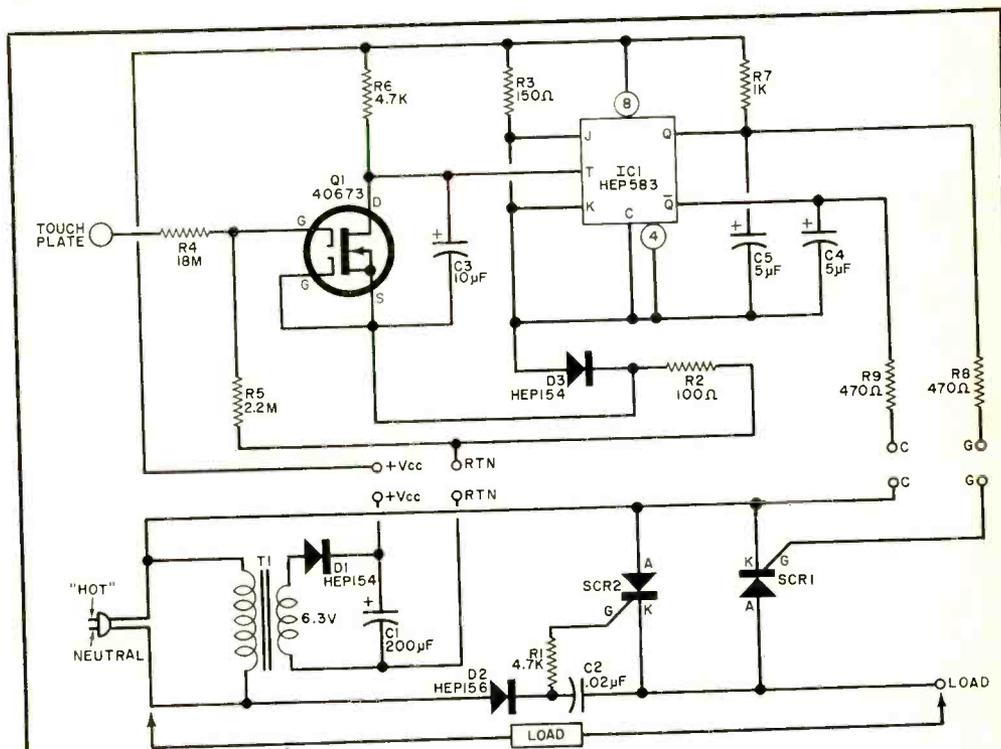

Fig. 1. In switch circuit, the flip-flop in IC1 is triggered by MOSFET Q1 which has high input impedance. Two SCR's supply load power on alternate half cycles.
**Circuit Operation.** Transistor *Q1* (see Fig. 1) is an insulated-gate MOSFET having an extremely high input impedance. Voltage gain is not required in this circuit, but current gain and impedance transformation are. When the touch plate is contacted, the ac signal on the body is passed through the high resistance of *R4* to one gate of *Q1*. Resistor *R5* completes the input voltage divider. The total of *R4* and *R5* is about 20 megohms.
Bend a piece of aluminum to make heat sink for the SCR's. accordance with Fig. 1, with the hot and neutral lines to the ac source and the load line to a 117-volt lamp or similar load. Be sure that all exposed ac line connections are thoroughly insulated to prevent shorting or contacting.